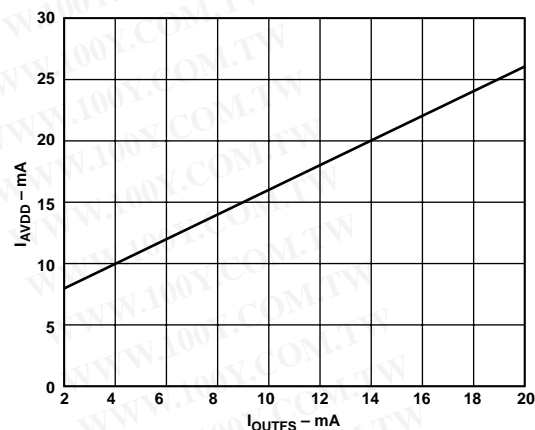

Figure 30. I_{DVDD} vs. I_{OUTFS}
The power dissipation, P_D , of the AD9764 is dependent on several factors, including: (1) AVDD and DVDD, the power supply voltages; (2) I_{OUTFS} , the full-scale current output; (3) f_{CLK} , the update rate; and (4) the reconstructed digital input waveform. The power dissipation is directly proportional to the analog supply current, I_{AVDD} , and the digital supply current, I_{DVDD} . I_{AVDD} is directly proportional to I_{OUTFS} , as shown in Figure 30, and is insensitive to f_{CLK} .